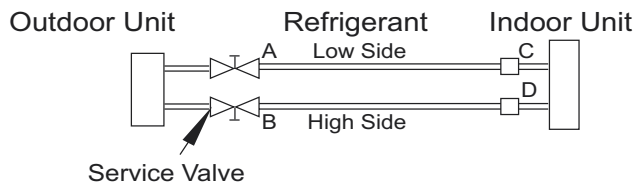

Fig. 33 —Service Valve
1. Completely tighten flare nuts A, B, C, D. Connect the manifold gage charge hose to a charge port of the low side service valve (see Fig. 33).